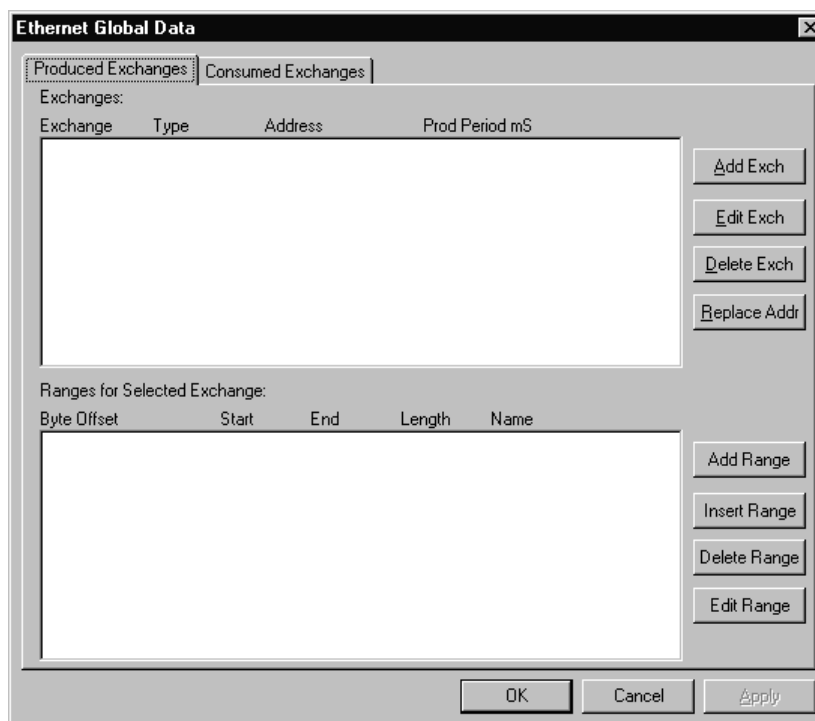
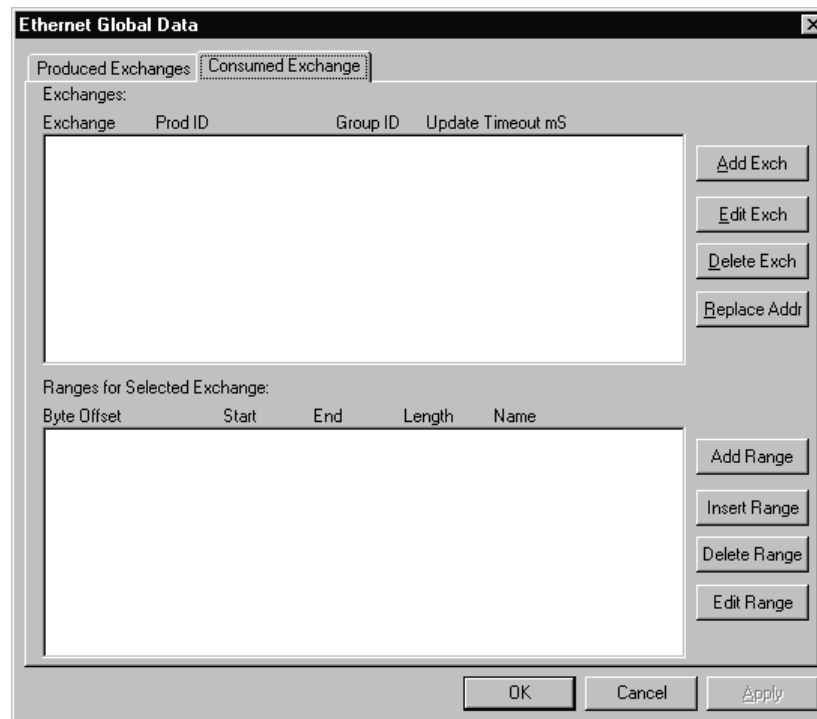
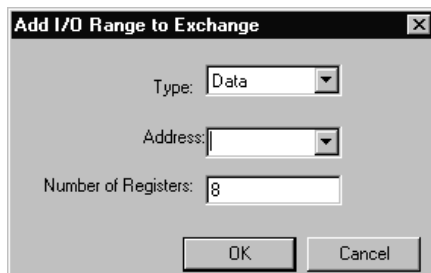

Figure 6.1 – Ethernet Global Data (EGD) Configuration Dialog – Produced Exchange Tab Selected
Figure 6.2 – Ethernet Global Data (EGD) Configuration Dialog – Consumed Exchange Tab Selected
Figure 6.4 – Add I/O Range to Exchange Dialog
3. Click on the **Config** button next to the **EGD (Ethernet Global Data)** checkbox to open the Ethernet Global Data Configuration dialog (Figure 6.1 or Figure 6.2).
Note: The Ethernet Global Data Configuration dialog allows EGD Produced and Consumed Exchanges to be configured. To configure Produced Exchanges, select the Produced Exchanges tab (Figure 6.1); to configure Consumed Exchanges, select the Consumed Exchanges tab (Figure 6.2)
To configure EGD Produced Exchanges, open the Ethernet Global Data Configuration dialog (Figure 6.1) as described in Section 6.3, and select the **Produced Exchanges** tab, where:
1. In the Ethernet Global Data Configuration dialog (Figure 6.1), click on the **Add Exch** button to open the Add / Edit Produced Exchange dialog (Figure 6.3).
3. Click **OK** to accept the new Produced Exchange configuration, which will be now be displayed in the upper window of the Ethernet Global Data Configuration dialog (Figure 6.1).
5. To edit or delete a Produced Exchange, highlight it in the upper window of the Ethernet Global Data Configuration dialog (Figure 6.1), and then click on the **Edit Exch** button or the **Delete Exch** button.
1. In the upper window of the Ethernet Global Data Configuration dialog (Figure 6.1), highlight one of the Produced Exchanges, and then click the **Add Range** button to open the Add I/O Range to Exchange dialog (Figure 6.4).
3. Click **OK** to accept the Produced Exchange's new I/O Block, which will now be displayed in the lower window of the Ethernet Global Data Configuration dialog (Figure 6.1).
Note: The OCS registers, specified in Data Block definitions, are sent to the EGD network in top-to-bottom order, as they appear in the lower window of the Ethernet Global Data Configuration dialog (Figure 6.1).
To configure EGD Consumed Exchanges, open the Ethernet Global Data Configuration dialog (Figure 6.2) as described in Section 6.3, and select the **Consumed Exchanges** tab, where:
1. In the Ethernet Global Data Configuration dialog (Figure 6.2), click on the **Add Exch** button to open the Add / Edit Consumed Exchange dialog (Figure 6.5).
3. Click **OK** to accept the new Consumed Exchange configuration, which will be now be displayed in the upper window of the Ethernet Global Data Configuration dialog (Figure 6.2).
5. To edit or delete a Consumed Exchange, highlight it in the upper window of the Ethernet Global Data Configuration dialog (Figure 6.2), and then click on the **Edit Exch** or **Delete Exch** button.
1. In the upper window of the Ethernet Global Data Configuration dialog (Figure 6.2), highlight one of the Consumed Exchanges, and then click the **Add Range** button to open the Add I/O Range to Exchange dialog (Figure 6.4).
3. Click **OK** to accept the Consumed Exchange's new I/O Block, which will be now be displayed in the lower window of the Ethernet Global Data Configuration dialog (Figure 6.2).
Note: The OCS registers, specified in Data Block definitions, are filled with received data in top-to-bottom order, as they appear in the lower window of the Ethernet Global Data Configuration dialog (Figure 6.2). In this respect, Filler Blocks are placeholders for Data Blocks and can be thought of as Data Blocks whose received data bytes are discarded.